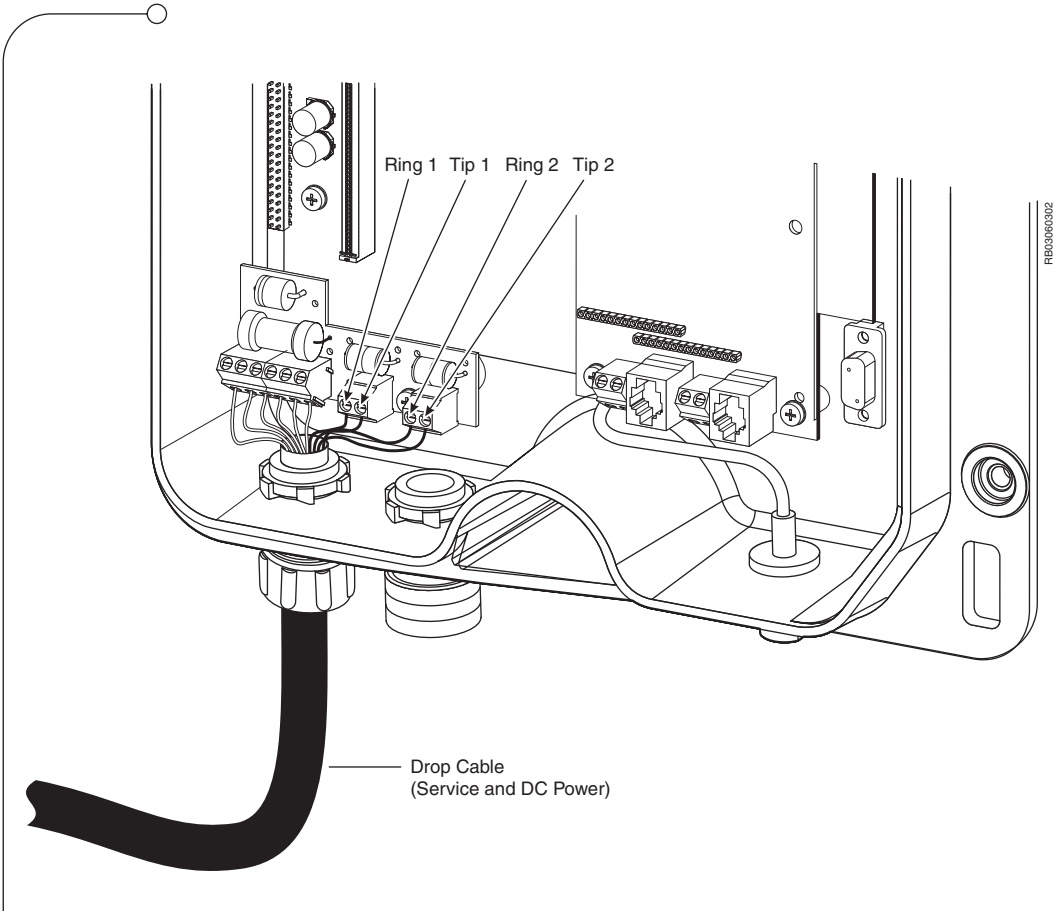

Figure 3.9 Subscriber Line Connections to the STS
1. Connect the subscriber lines to the STS, as shown in Figure 3.9 on page 41.